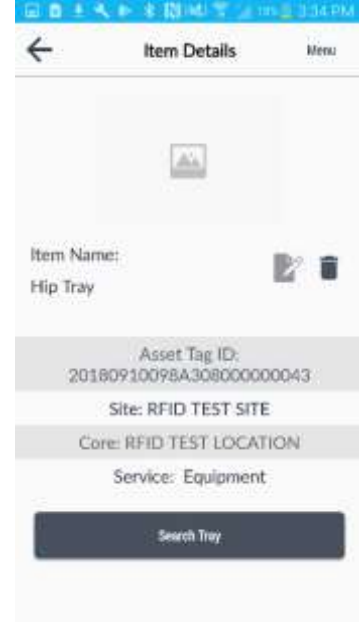
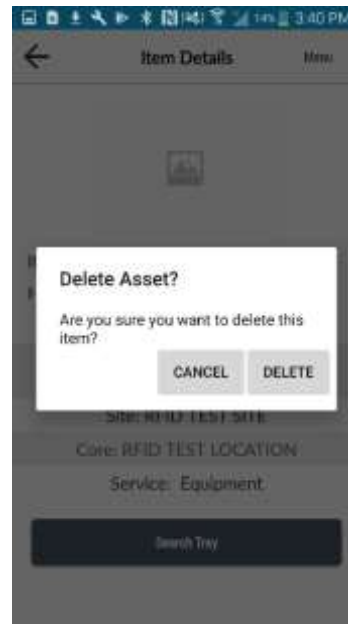

Figure 39
Figure 40
- Tap on the trash can icon to the right to delete the item or tray. A message will display, choose CANCEL OR DELETE. By choosing delete this will remove the item or tray from the Item List. **Fig. 39. Fig. 40**